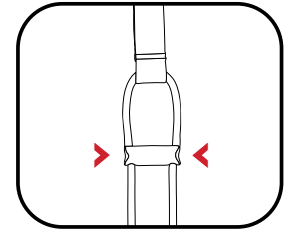

Fig 5
3. Ensure that the straps are clipped back into the housing before use (fig. 5)